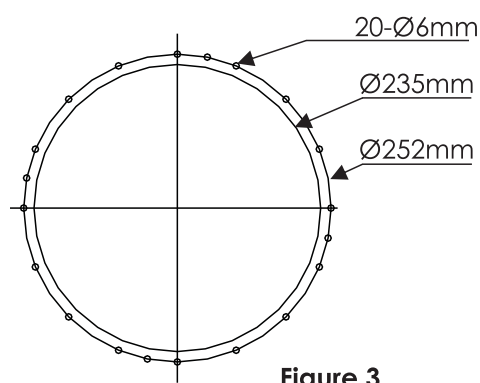

Figure 3
- 3) Punch or drill the holes in the vinyl liner as stated in figure 3.